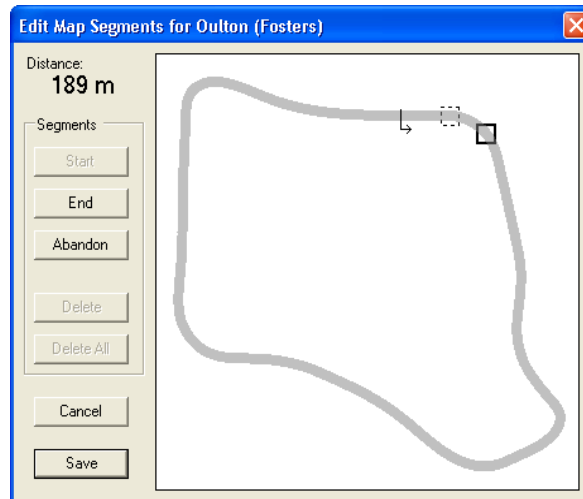

Figure 24 - Edit Map Segments Dialog (Defining a Segment)
3. Mark the start point of the segment by clicking on the map and then clicking **Start**. The start point of the segment is marked with a square drawn in a dashed line (see Figure 24). The **Start** button is disabled and the **End** and **Abandon** buttons are enabled.